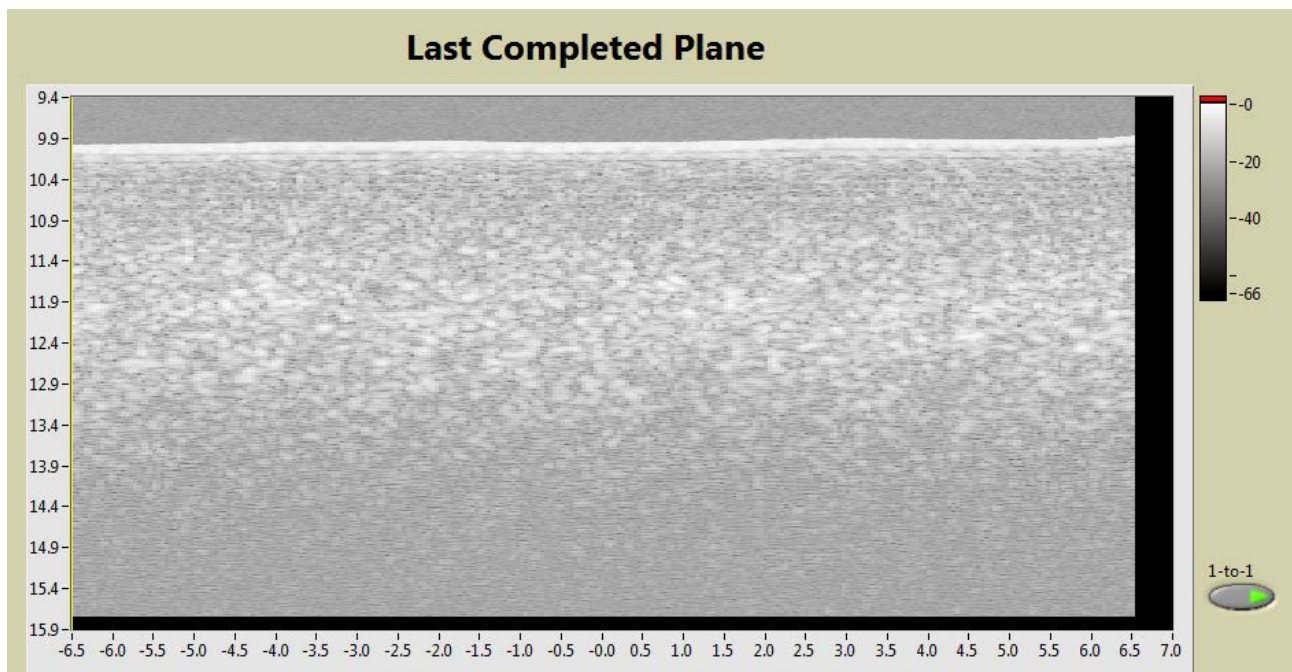

Figure 8: The Last Completed Plane Window
4. The Last Completed Scan Plane will be displayed on the screen (Figure 8)